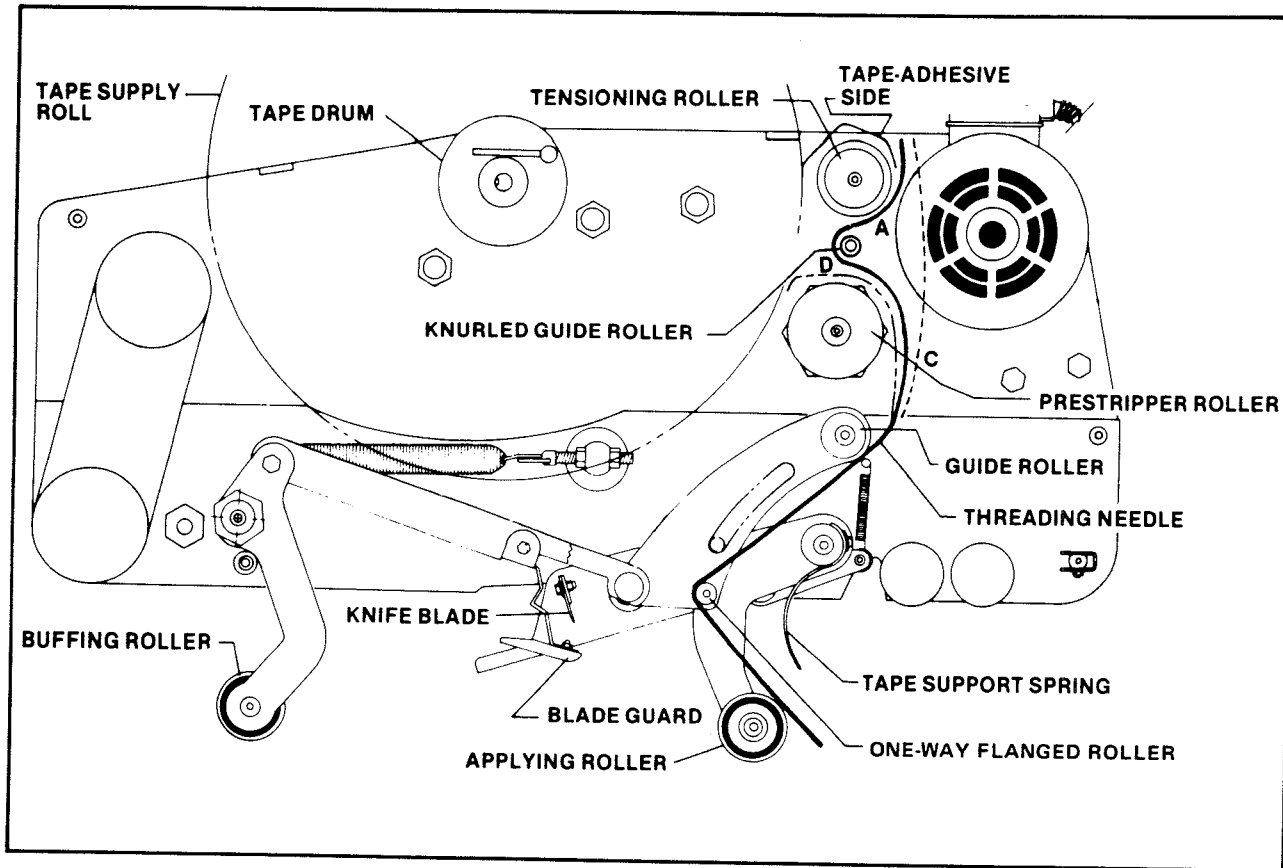
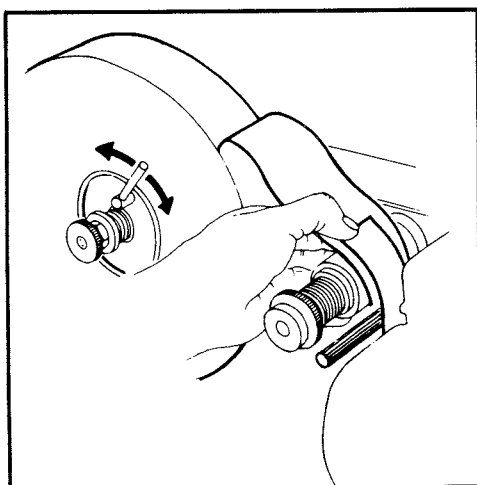

FIGURE 4A - TAPE THREADING DIAGRAM - TOP TAPING HEAD - LEFT SIDE VIEW
FIGURE 4C
- 2) With the temporary threading needle already in position, as shown in figure 4A, follow the tape loading procedure from figure 4C to complete the tape threading with this exception; thread tape around tensioning roller, knurled guide roller and prestripper roller in one of three paths depending on the application.
Thread upper end of needle around guide roller and through path A, C or D as shown in Figure 4A .
FIGURE 4C - Turn eccentric roller lever inward to rest against tape drum shaft and place tape roll on drum to dispense tape from bottom of roll toward guide roller with tape adhesive side up. Seat tape roll fully against back flange of drum and turn roller lever outward to secure tape roll. Adhere tape lead end to upper end of threading needle as shown.
The S-shaped tape support spring, shown in figures 4A & 5A holds the lead end of tape in a controlled position at the applying roller. Its position is adjustable by loosening the phillips head screw on the mounting shaft, moving the spring by pivoting it around the shaft, and tightening the phillips head screw. The spring position should be adjusted so its tip is approximately 1/8 to 1/4 inch [3 to 6 mm] away from the tape when it is stretched straight between the one-way roller and applying roller.
The applying mechanism spring, shown in figures 4A & 5A controls applying and buffing roller pressure on the box and returns the mechanism to the rest position. The spring pressure is preset for normal operation but is adjustable by means of the mounting screw.